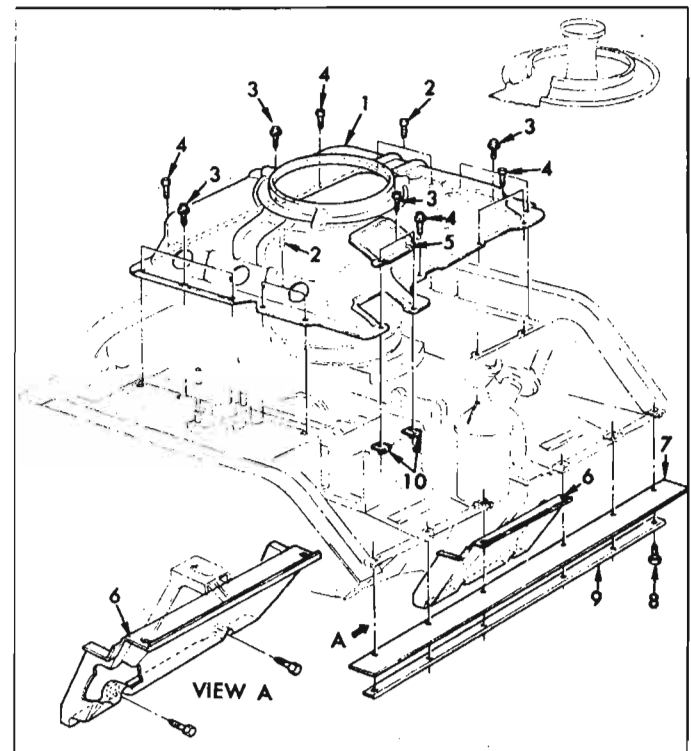

Fig. 6A-12—Engine Upper Shroud Assembly, Rear Shield and Center Shroud
- Remove all engine upper shroud assembly retaining screws (fig. 6A-12) and remove upper shroud.